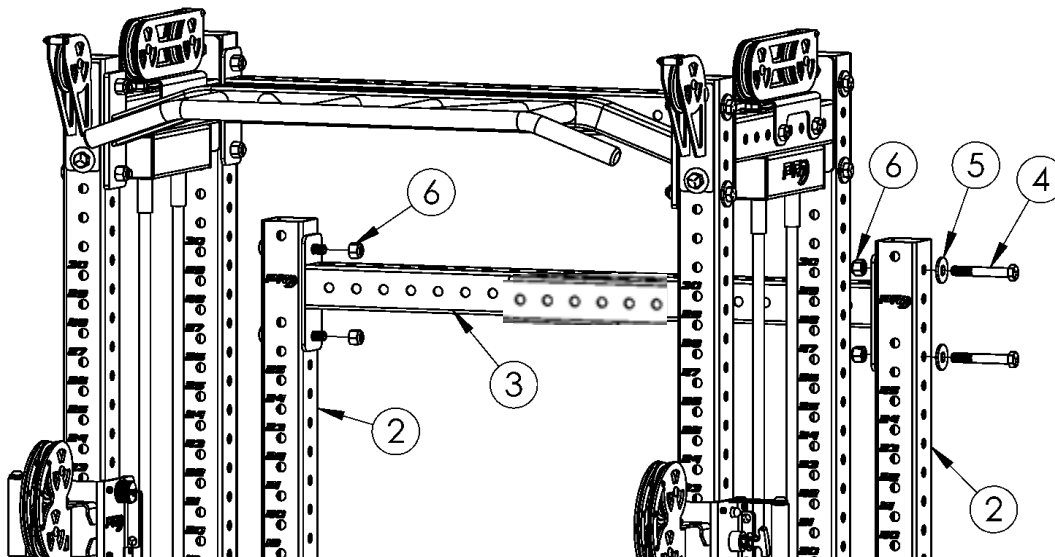

Figure 4
1. Attach the 42" Crossmember (3) to the 81" Uprights (2) with the 5/8" hardware. **Figure 4**